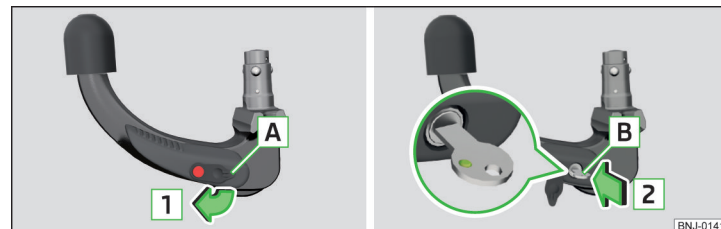

Fig. 233 Remove cap from the lock / insert key into the lock
- › Remove the cover **A** from the lock in the direction of the arrow **1** » Fig. 233.